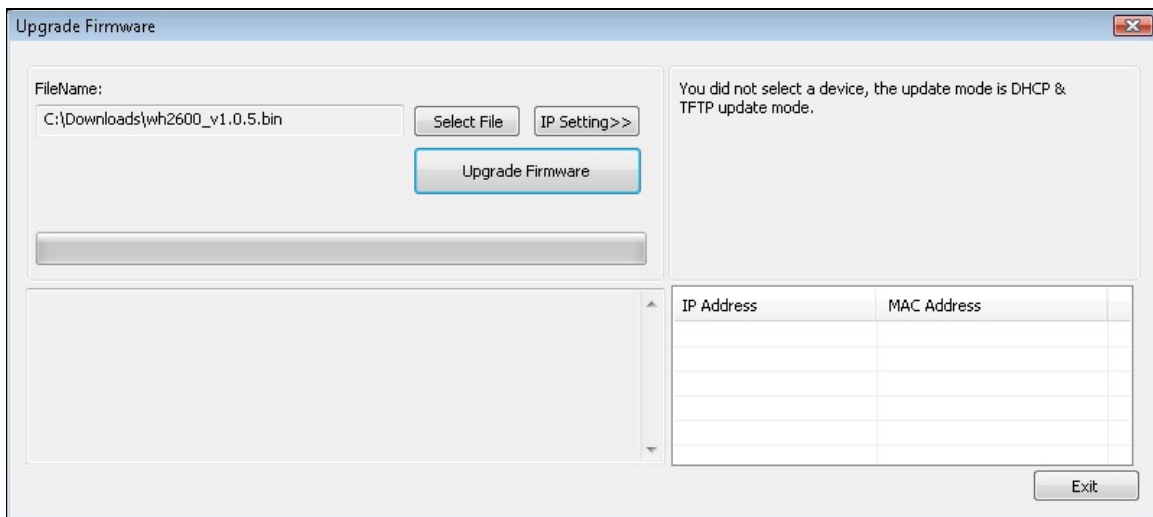
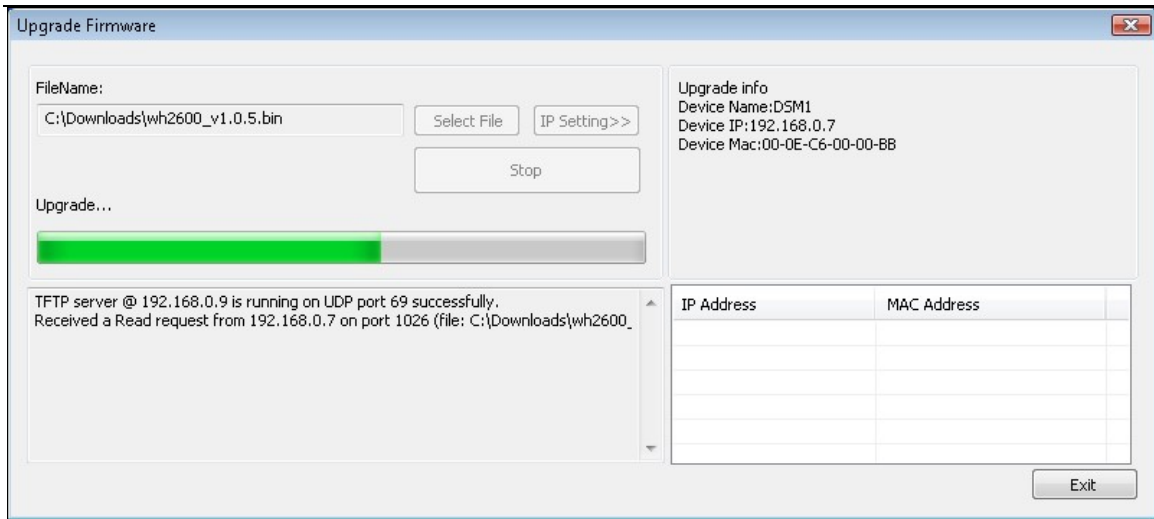
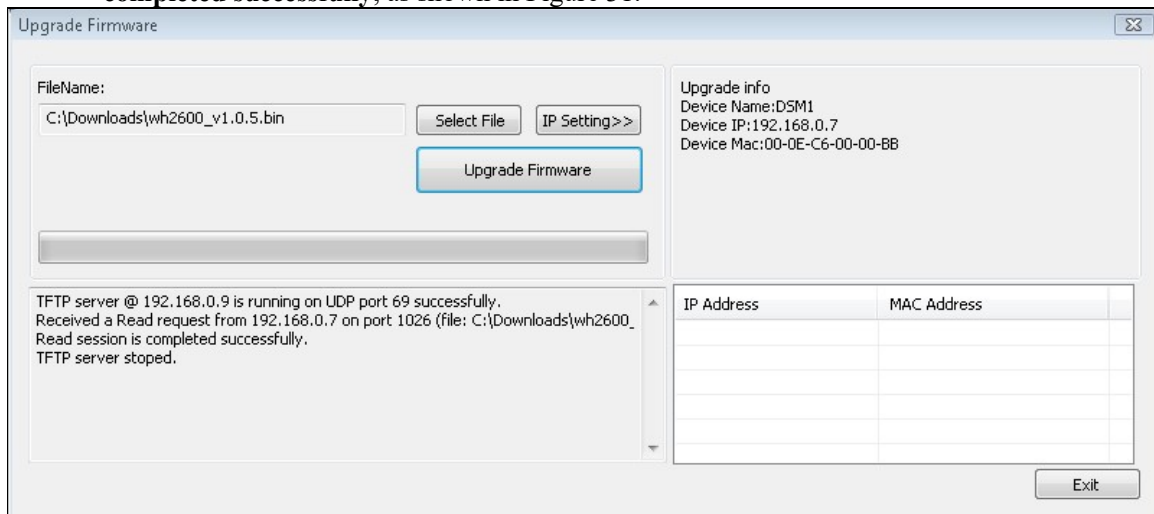

Figure 29
Figure 30
Figure 31
4. Reference Figure 29. Select the **Select File** button, and browse to the location of the file you downloaded in Step 1.
5. Select the **Upgrade Firmware** button. Reference Figure 30. The dialog box will display **Received a Read Request** from the ObserverIP module. A green progress bar will provide you with the upgrade status.
- Once the firmware upgrade is complete, the dialog box will display **Read session is completed successfully**, as shown in Figure 31.
1. Reference Figure 29. Select the **Choose File** button, and browse to the location of the file you downloaded in Step 1.
2. Select the **Update** button. Reference Figure 30. The dialog box will display **Ready to Update** from the ObserverIP module. A progress bar will provide you with the upgrade status.
Only the Power, Link and ACT lights are lit and the ObserverIP module does not communicate to the server.	<p>The firmware will need to be reloaded.</p> <ol style="list-style-type: none"> 1. Download the latest firmware here: ObserverIp Download Center 2. Power down the ObserverIP module but leave connected to your router. 3. Launch the IP Tools application as referenced in Section 3.4.1. Since the module is powered down, you will not be able to locate it on your network, but proceed anyway. 4. Select the Upgrade button. 5. Reference Figure 29. Select the Select File button, and browse to the location of the file you downloaded in Step 1. 6. Select the Upgrade Firmware button. 7. Plug in the ObserverIP module. The software will locate the device on your network and begin the update. <p>Reference Figure 30. The dialog box will display Received a Read Request from the ObserverIP module. A green progress bar will provide you with the upgrade status.</p> <p>DO NOT OPERATE THE MOUSE OR KEYBOARD WHEN UPGRADING to prevent interruption of the upgrade.</p> <ol style="list-style-type: none"> 5. Once the firmware upgrade is complete, the dialog box will display Read session is completed successfully, as shown in Figure 31.